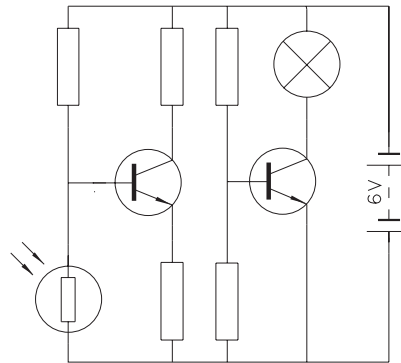

Fig. 9.19 Example using the DesignCenter – the completed circuit
Using the DesignCenter (Fig. 9.19)
6. Complete the circuit drawing as shown in Fig. 9.19.
Figure 9.19 does not represent an authentic electronics circuit.